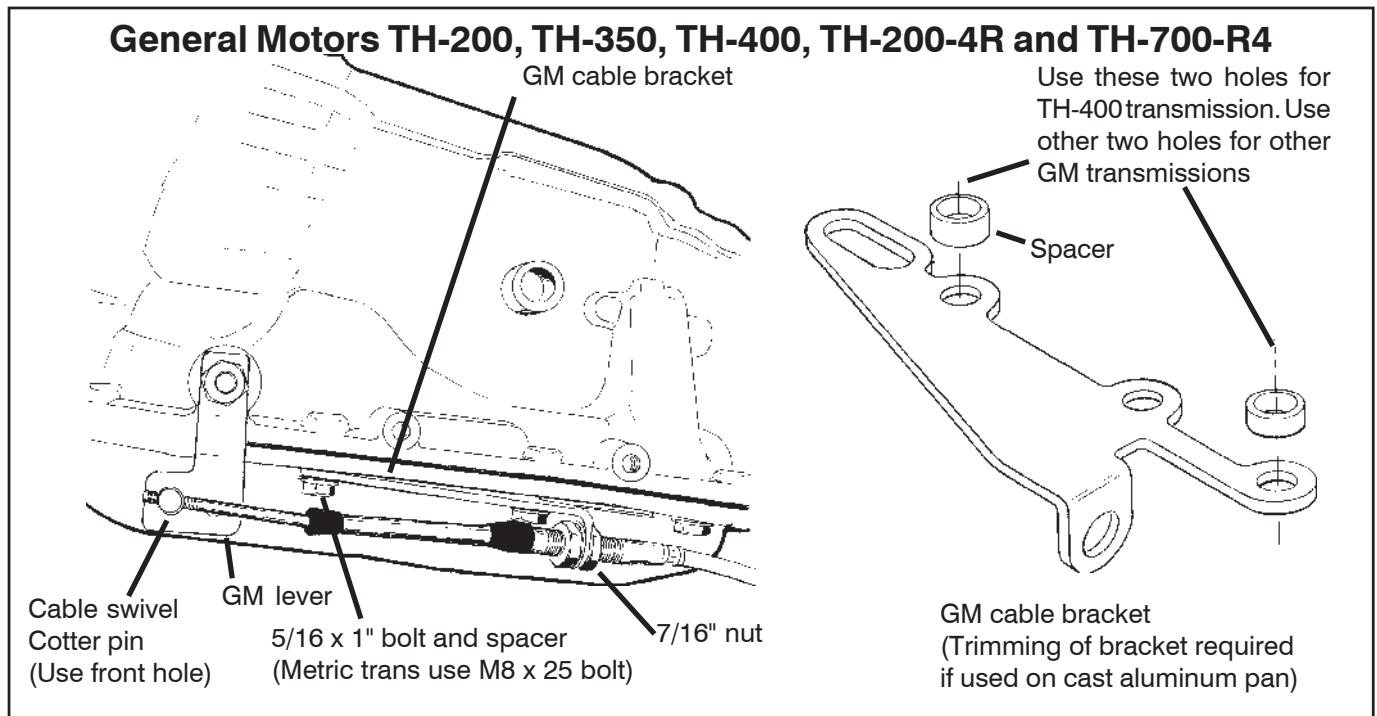

Figure 5
card stock lever and stock shifter linkage. Install **B&M** selector lever in position using stock selector lever nut, (See **figure 5**). Torque nut to 23 lb. ft. The lever should move smoothly from front to rear with a positive click in each gear position.
STEP 11. Remove two transmission oil pan bolts from the middle of the left side of the oil pan. Install cable bracket in position, (See **figure 5**.) The bracket must be installed with two spacers between the pan and bracket. (If your transmission is equipped with a cast aluminum oil pan, these spacers should be omitted. With a TH-400 with a cast aluminum oil pan the cable bracket may have to be modified.) Install the two 5/16-18 x 1.00" bolts (Metric transmissions use the two 8mm x 25mm bolts) supplied and tighten 12-13 ft. lbs. Do not overtighten as this can damage pan gasket.